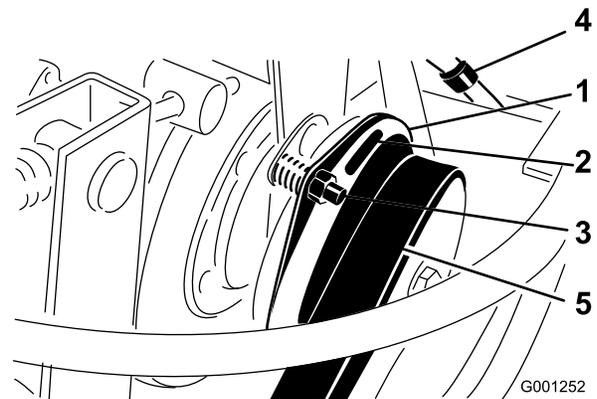

Figure 66
3. Adjust the air gap so that a 0.015 inch feeler gauge slides in between the clutch lining and friction plate with light pressure (Figure 66). The gap can be decreased by turning the adjusting nut clockwise (Figure 66). The maximum service gap is 0.030 inch. Adjust all three air gaps.